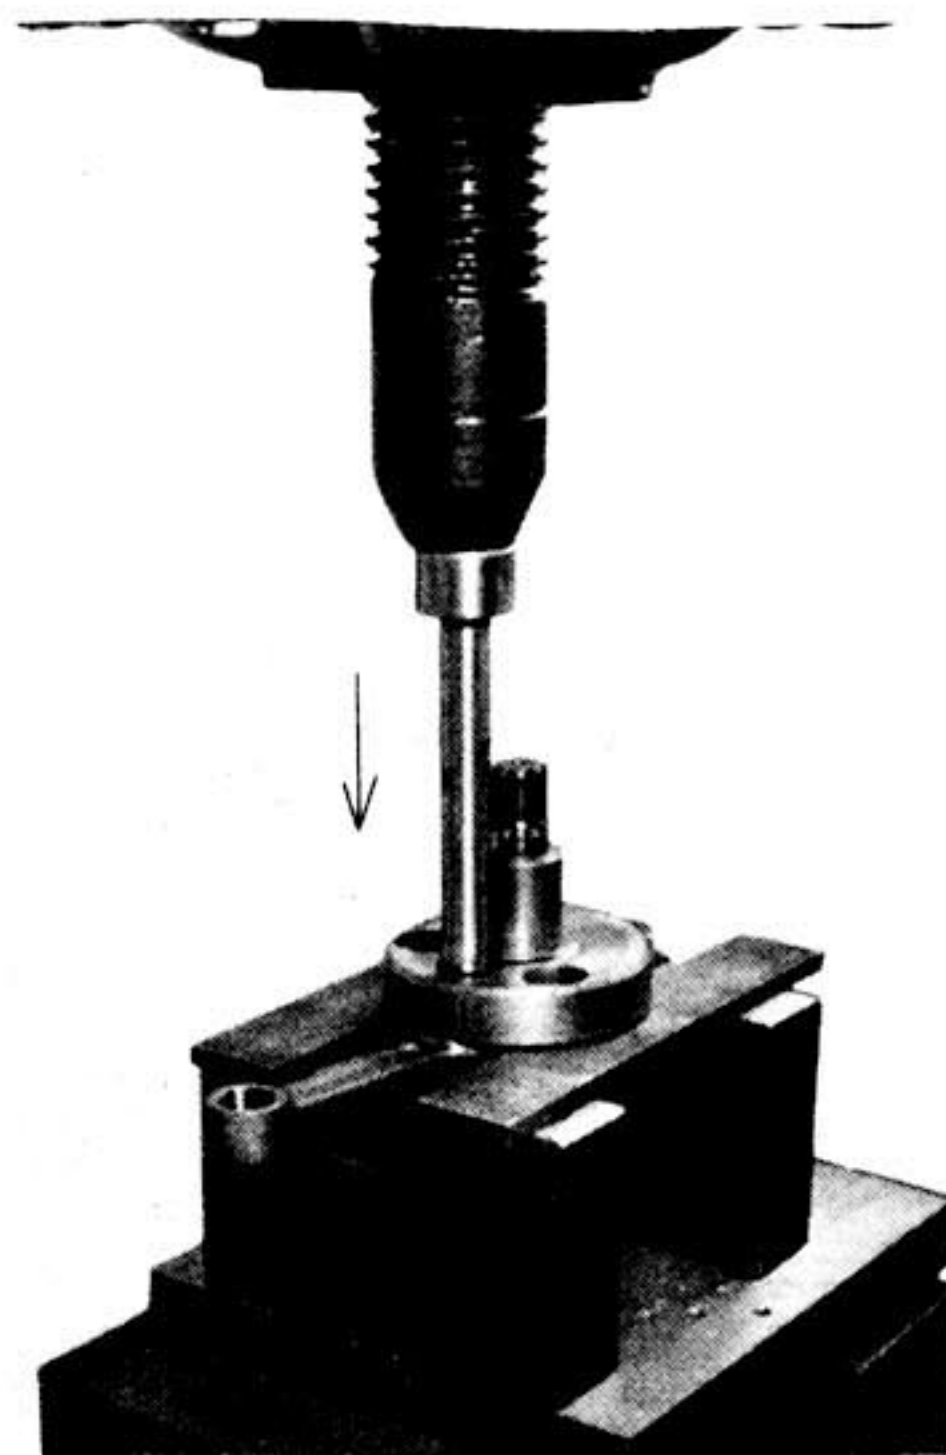
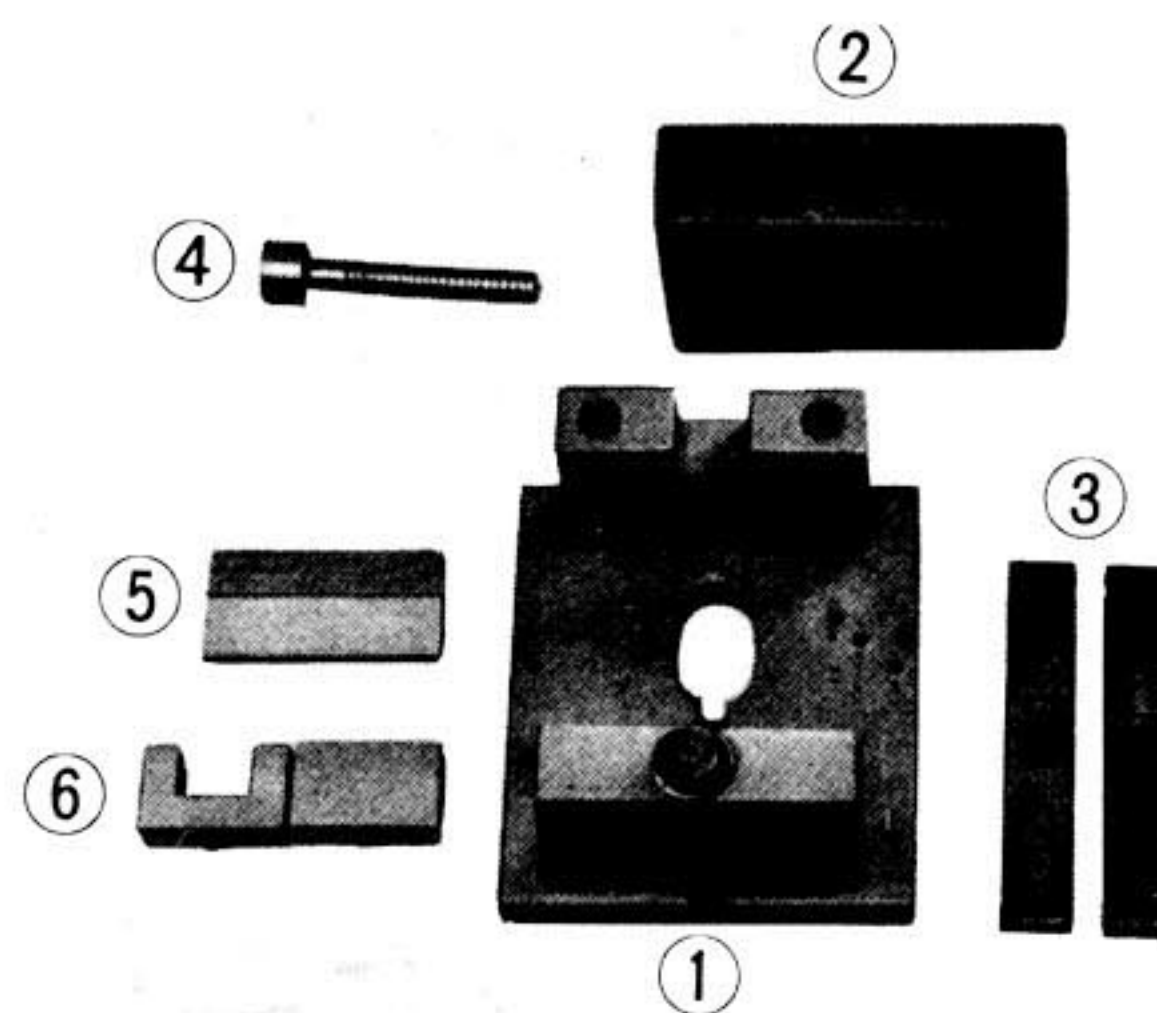

Fig. 4-17-10
Fig. 4-17-11
- 6) Remove the crankshaft pin in the manner as shown in Fig. 4-17-10. (For this purpose, use the jigs as shown in Fig. 4-17-11)
To reassemble the crankshaft ass'y use a set of special jigs as shown in Fig. 4-17-11.